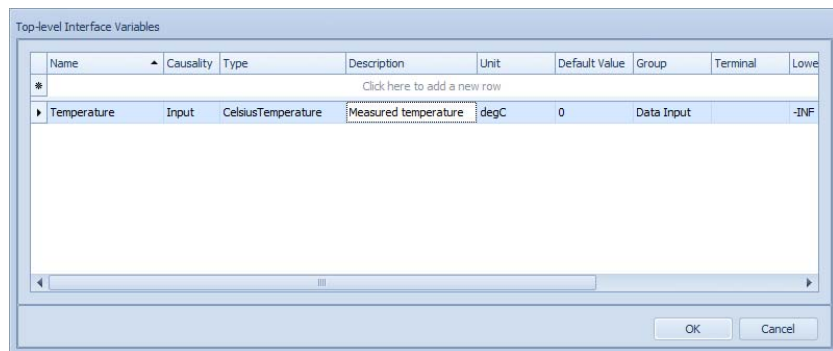

Figure 7.14 Create a top-level Interface Variable
- in the Top-level Interface Variable dialogue (Figure 7.14), add a new row and fill in the relevant information: